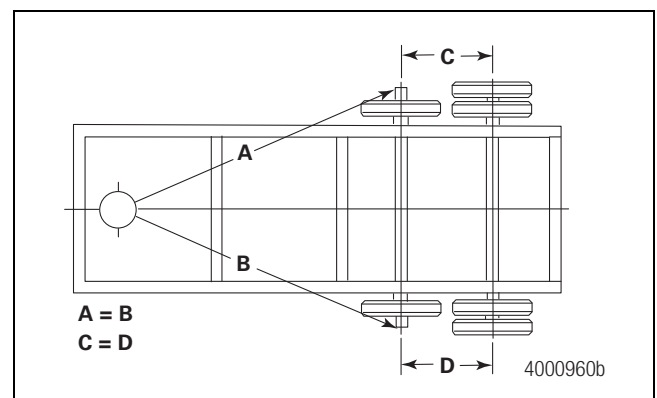

Figure 6.1
4. Release the trailer brakes. Measure from the trailer king pin to each end of the front axle. Refer to measurements A and B in Figure 6.1. The difference between measurements A and B must not exceed 0.125-inch (3.175 mm).
5. Check the dimension from the centerline of the front axle to the center of any rear axle. Refer to measurements C and D in Figure 6.1. The difference between measurements C and D must not exceed 0.0625-inch (1.5875 mm).
- Use a 1/2-inch breaker bar to rotate the eccentric washer within the alignment blocks to move the axle forward or backward. Check axle alignment while adjusting axle position. The maximum recommended adjustment is 90 degrees per the direction from the vertical position of the eccentric washer. Figure 6.1.
- Follow Step 1 through Step 3 to align additional axles to the front axle, until both axle ends are an equal distance from the forward axle. The difference between dimension C and dimension D (Figure 6.1) must not exceed 0.0625-inch (1.5875 mm). If necessary, adjust the rear axle to bring this difference within specification.